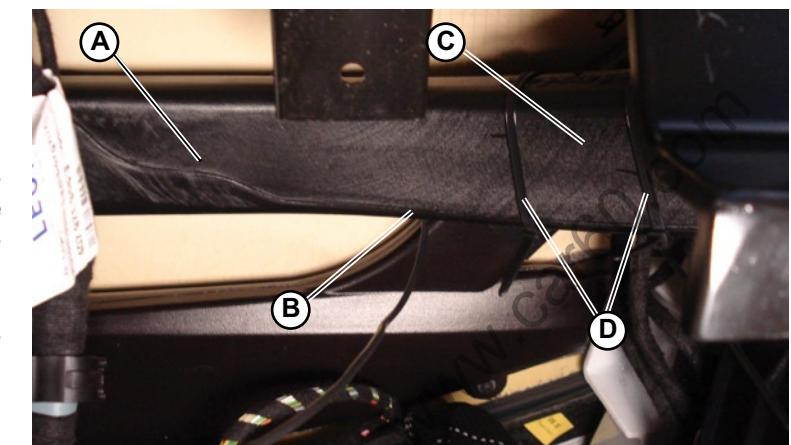

Fig.4
5. Pay attention to the informations concerning the GPS antenna present in the previous page. Position the GPS antenna (9-Fig.2) in a perfectly horizzontal position on the pipeline of the air-conditioner (A-Fig.4) that are present under the dashboard on the passenger side. It's not necessary to remove the dashboard, it's possible insert from below the antenna in the indicated point (B-Fig.4).
7. Position the GSM antenna on the same air-conditioner pipeline (A-Fig.4) where the GPS one has been placed; it's possible place the GSM antenna in oblique position (C-Fig.4) on the right side of the GPS one.
- Fix the GSM antenna in the right position using two cable tie of the ones supplied in the kit; the cable tie must be positioned on the extremities of the GSM antenna (**D-Fig.4**).